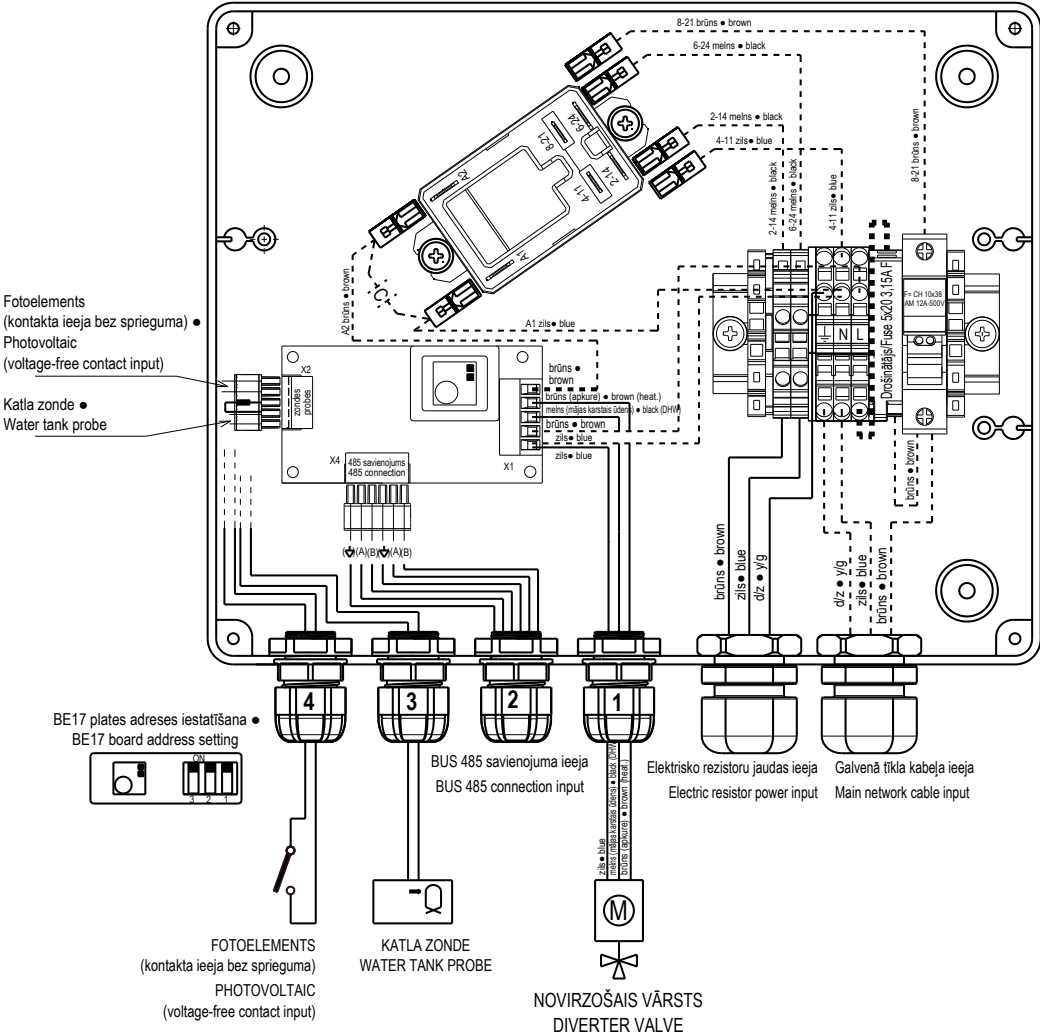

fig. 3
- ⚠ **For connections, refer to the electrical diagram (fig. 3).**
- Connect the supplied diverter valve connection wiring to the 5-pole **X1** connector after inserting it into **cable gland 1** (fig. 3)
- Connect the system communication BUS cables ($L_{max} = 30$ m) to the 6-pole **X4** connector of the BE17 electronic board as indicated in the electrical diagram after inserting them into **cable gland 2** (fig. 3).
- Connect to the 5-pole connector **X2** the supplied probe cable after inserting it into the **cable gland 3**, refer to the electrical diagram (fig. 3).
- connect the 2 wires coming from the photovoltaic (voltage-free contact input) to the 5-pole connector **X2** as reported in the electrical diagram (fig. 3) after inserting it into the **cable gland 4**.